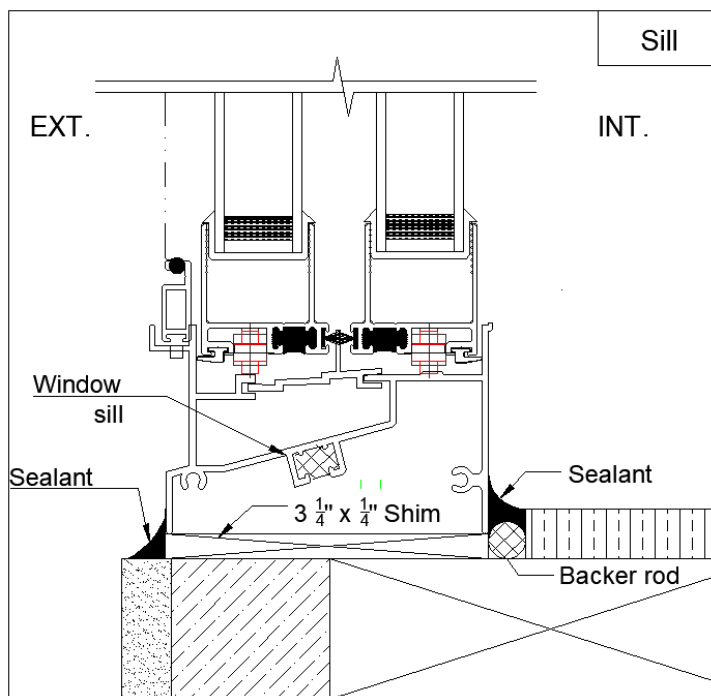

Figure 2: Side View of Sill
2.1 Set $3 \frac{1}{4}$ " x $\frac{1}{2}$ " shim at the sill of opening to support the window (the length of shim is same as the opening width, refer to figure 2).
Remove loose debris and clean around the window, make sure the condition is clean and dry. Add proper backer rod before caulking if necessary, apply sealant continuously around exterior and interior window perimeter (refer to figures 2 – 4). Notice: make sure there's no void or gap in the sealant; do not use the expandable foam to seal the window, otherwise, it would bow the window's frame and affect the operation of window.